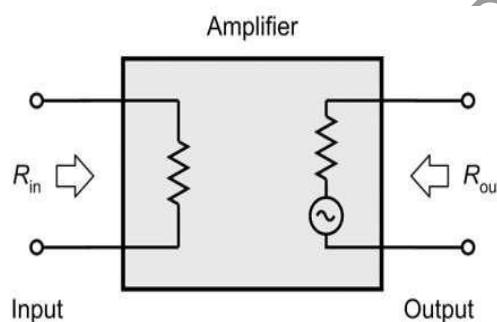

Figure 1.20 The Input and output resistance, with the input and output terminals, respectively.
- The ladder arrangement shown in Fig. 1.20 can be easily extended to provide even higher voltages but the efficiency of the circuit becomes increasingly impaired and high-order voltage multipliers of this type are only suitable for providing relatively small currents.
- Fig. 1.20 shows how the input and output resistances are ‘seen’ looking into the input and output terminals, respectively.